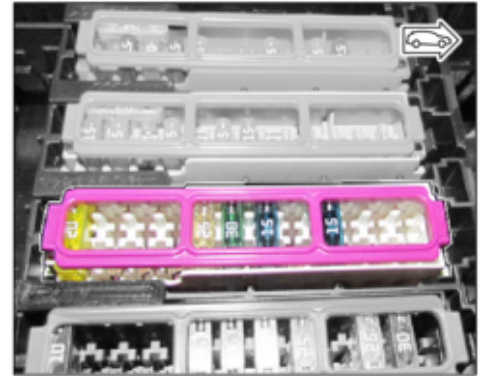

Figure 16
2.8 Check fuse assignment in fuse holder H (strip B – white ⇒ *Figure 16*) and insert missing fuses if necessary: